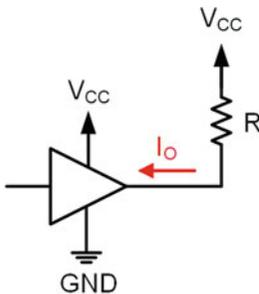

Fig. 3.41
- 3.4.21** For the pull-up driver configuration shown in Fig. 3.41, what is the output current (I_o) if $V_{CC} = +5$ v and $R = 50$ Ω ?
- 3.4.22** For the pull-up driver configuration shown in Fig. 3.41, what is the output current (I_o) if $V_{CC} = +5$ v and $R = 100$ Ω ?
- 3.4.23** For the pull-up driver configuration shown in Fig. 3.41, what is the output current (I_o) if $V_{CC} = +5$ v and $R = 1$ k Ω ?
- 3.4.24** For the pull-up driver configuration shown in Fig. 3.41, what is the output current (I_o) if $V_{CC} = +3.4$ v and $R = 50$ Ω ?
- 3.4.25** For the pull-up driver configuration shown in Fig. 3.41, what is the output current (I_o) if $V_{CC} = +3.4$ v and $R = 100$ Ω ?
- 3.4.26** For the pull-up driver configuration shown in Fig. 3.41, what is the output current (I_o) if $V_{CC} = +3.4$ v and $R = 1$ k Ω ?
- 3.4.27** For the pull-up driver configuration shown in Fig. 3.41, if $V_{CC} = +5$ v, $R = 75$ Ω , and $I_{O_MAX} = 50$ mA, is the maximum output current specification violated?
- 3.4.28** For the pull-up driver configuration shown in Fig. 3.41, if $V_{CC} = +5$ v, $R = 150$ Ω , and $I_{O_MAX} = 50$ mA, is the maximum output current specification violated?
- 3.4.29** For the pull-up driver configuration shown in Fig. 3.41, if $V_{CC} = +5$ v, $R = 500$ Ω , and $I_{O_MAX} = 50$ mA, is the maximum output current specification violated?
- 3.4.30** For the pull-up driver configuration shown in Fig. 3.41, if $V_{CC} = +3.4$ v, $R = 75$ Ω , and $I_{O_MAX} = 25$ mA, is the maximum output current specification violated?
- 3.4.31** For the pull-up driver configuration shown in Fig. 3.41, if $V_{CC} = +3.4$ v, $R = 150$ Ω , and $I_{O_MAX} = 25$ mA, is the maximum output current specification violated?
- 3.4.32** For the pull-up driver configuration shown in Fig. 3.41, if $V_{CC} = +3.4$ v, $R = 500$ Ω , and $I_{O_MAX} = 25$ mA, is the maximum output current specification violated?
- 3.4.33** For the pull-up driver configuration shown in Fig. 3.41 with $V_{CC} = +5$ v, calculate the value of the pull-up resistor (R) in order to ensure that the output current does not exceed 20 mA.
- 3.4.34** For the pull-up driver configuration shown in Fig. 3.41 with $V_{CC} = +5$ v, calculate the value of the pull-up resistor (R) in order to ensure that the output current does not exceed 25 mA.
- 3.4.35** For the pull-up driver configuration shown in Fig. 3.41 with $V_{CC} = +5$ v, calculate the value of the pull-up resistor (R) in order to ensure that the output current does not exceed 50 mA.
- 3.4.36** For the pull-up driver configuration shown in Fig. 3.41 with $V_{CC} = +3.4$ v, calculate the value of the pull-up resistor (R) in order to ensure that the output current does not exceed 20 mA.
- 3.4.37** For the pull-up driver configuration shown in Fig. 3.41 with $V_{CC} = +3.4$ v, calculate the value of the pull-up resistor (R) in order to ensure that the output current does not exceed 25 mA.
- 3.4.38** For the pull-up driver configuration shown in Fig. 3.41 with $V_{CC} = +3.4$ v, calculate the value of the pull-up resistor (R) in order to ensure that the output current does not exceed 50 mA.